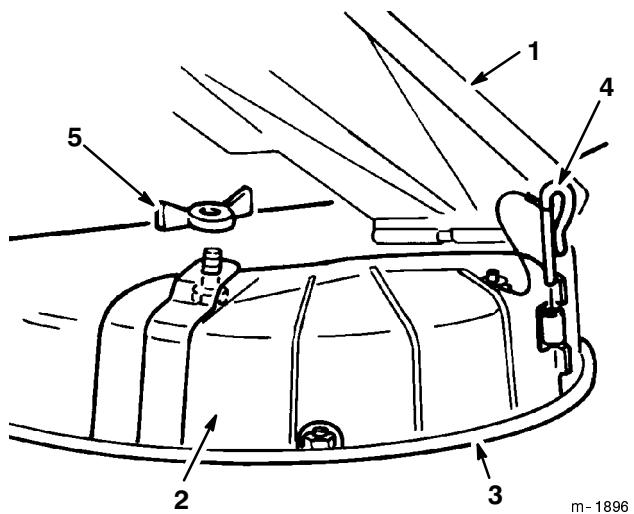

Figure 12
- Lift the grass deflector and place the discharge cover over the opening onto the lower lip of the mower and slide into the front hinge (Fig. 12).
- Slide the hinge pin through the hinge (Fig. 12).
- Secure the discharge cover to the mower with the wing nut (Fig. 12).